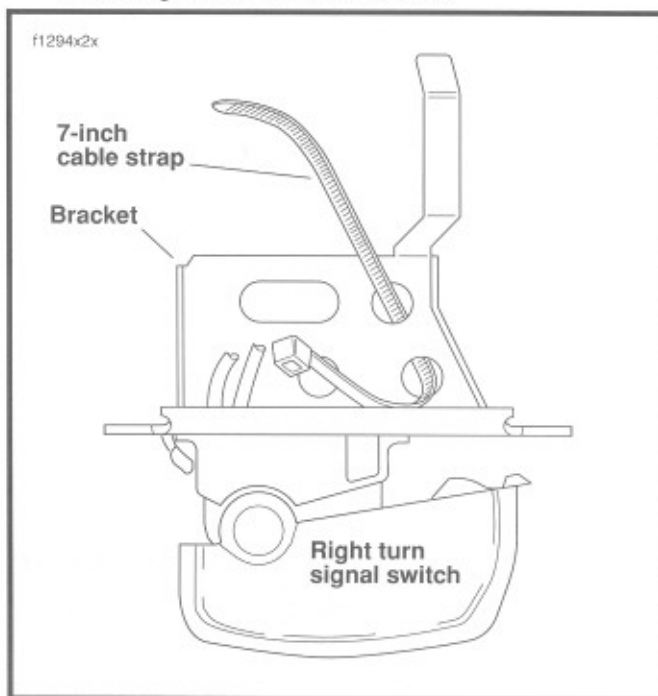

Figure 7-80. Insert Cable Strap in Switch Bracket
1. See Figure 7-80. Insert tapered end of **new** 7 inch cable strap into round hole in turn signal switch bracket and then feed back through using the adjacent hole. Reserve the oblong hole for the bracket screw.